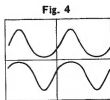

Fig. 4
On the other hand, since an almost constant current is flowing through the transistors kQ8 and 10, voltage between emitters of kQ8 and 10 is kept constant. As a result, the transistors kQ8 and 10 are cut off and therefore the voltage between points (A) and (B) increases. Therefore, since the current flowing through the power transistors on the inoperative side increases, thus preventing the power transistor from being cut off and the switching distortion from being produced (See Fig. 4).